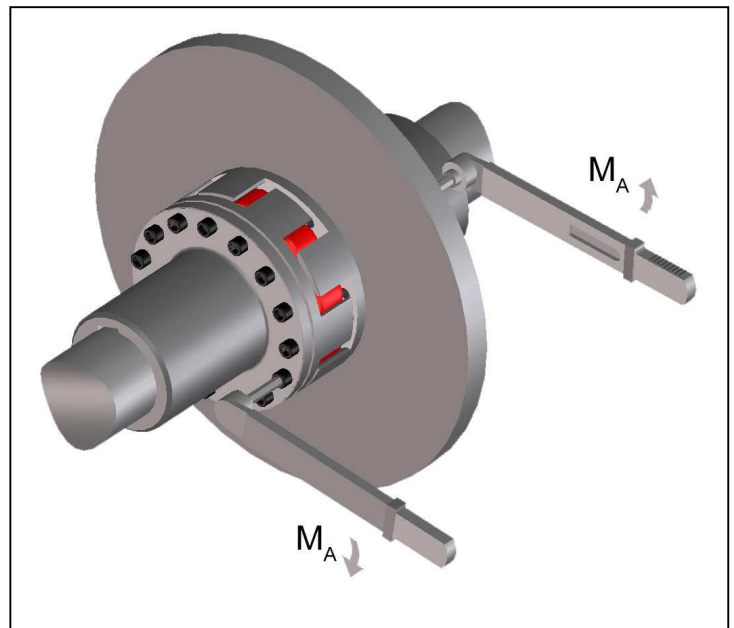

Fig. 13
- Tighten the screws to the proper torque  $M_A$  specified in table 2 and 3 (Fig 13).